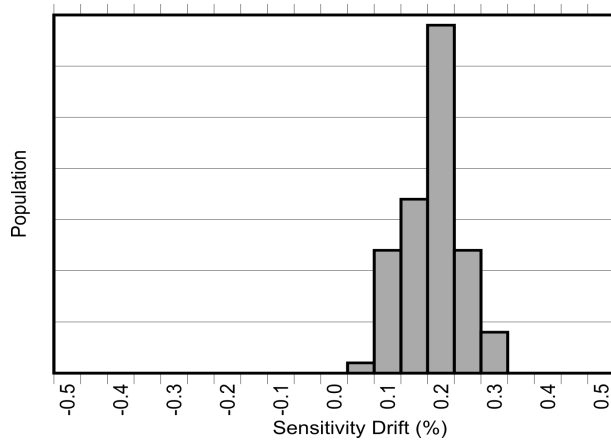
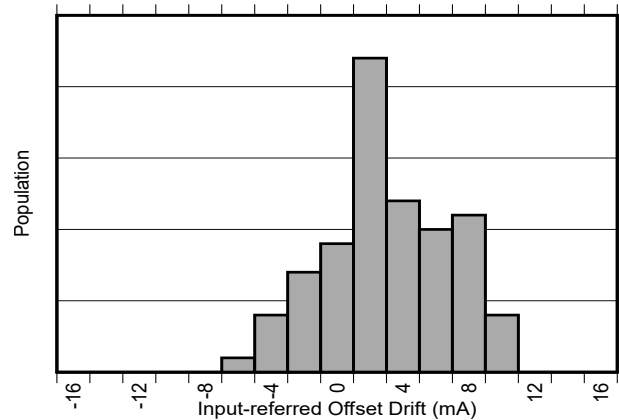

Figure 8-3. Sensitivity Error Drift After AEC-Q100 High Temperature Operating Life Stress Test
Figure 8-4. Input-Referred Offset Drift After AEC-Q100 High Temperature Operating Life Stress Test
In addition to large thermal drift, typical magnetic current sensors suffer an additional 2% to 3% drift in sensitivity due to aging over the lifetime of the device. The same proprietary compensation techniques used in the TMCS1123 to reduce temperature drift are also used to greatly reduce lifetime drift due to aging from stress and environmental conditions especially at high operating temperatures. As shown in the Electrical Characteristics, the TMCS1123 has industry leading lifetime sensitivity drift realized after Highly Accelerated Stress Tests (HAST) at 130°C and 85% relative humidity (RH) during standard three lot AEC-Q100 qualifications. Low sensitivity and offset drift within the bounds specified in the Electrical Characteristics are also observed after 1000 hour, 125°C high temperature operating life stress tests are performed as prescribed by AEC-Q100 qualifications. These tests mimic typical device lifetime operation, and show device performance variation due to aging is vastly improved compared with typical magnetic current sensors. Figure 8-3 and Figure 8-4 show the sensitivity and offset drift after a 1000 hour, 125°C high temperature operating life stress test as specified by AEC-Q100. Device